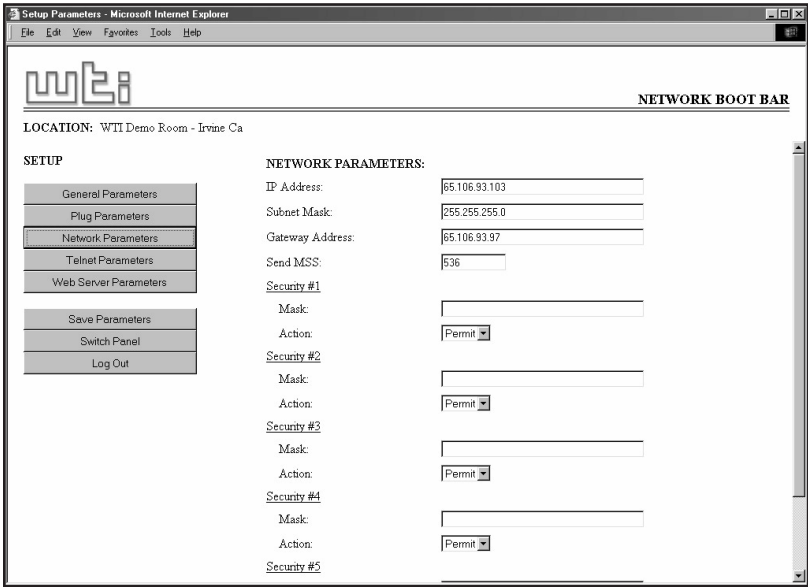

Figure 5.7: Network Parameters Menu - Web Browser Interface
**Web Browser Interface:** Click the "Setup" button to access the Setup Menus, and then click the "Network Parameters" button. The Web Parameters Menu will be displayed as shown in Figure 5.7.
- a) **Web Browser Interface:** The IP Security feature is configured using the fields at the bottom of the Network Parameters Menu as shown in Figure 5.7.